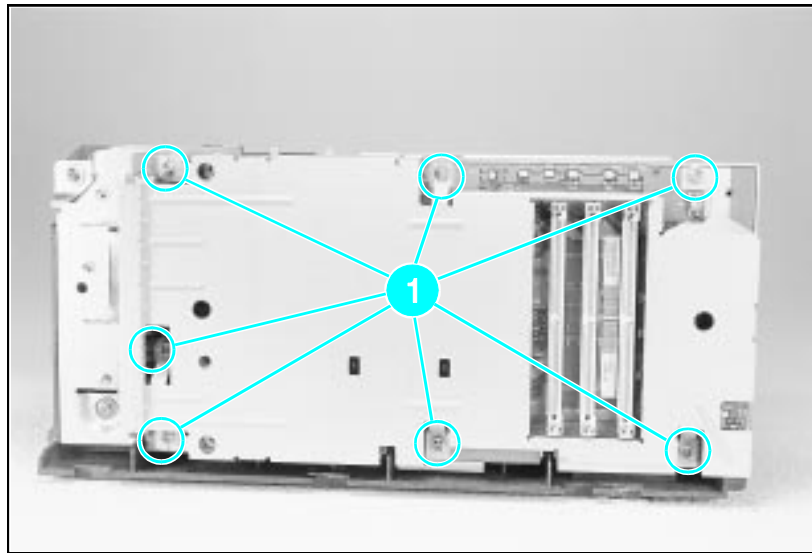

Figure 22 Removing the formatter screws.
2. Remove the (7) screws shown in Figure 22.